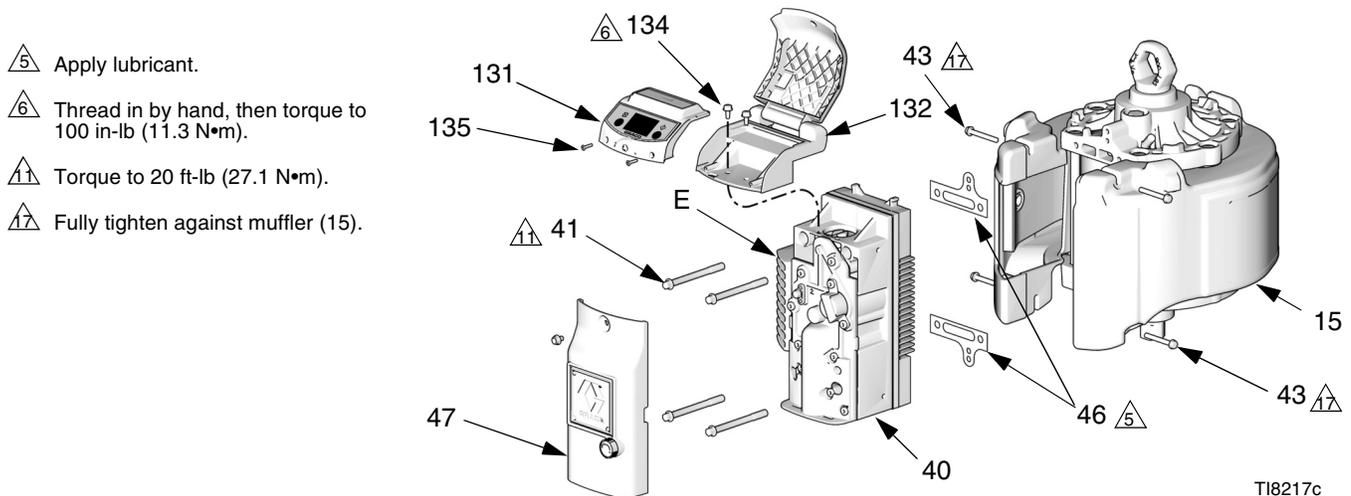

FIG. 9. Remove the Air Valve (Model Shown with DataTrak Module)
4. See FIG. 9. Remove the outer valve cover (47).
- a. **DataTrak Models:** Remove the two screws (135). Carefully remove the DataTrak module (131), see page 14. Disconnect the runaway solenoid and sensor cables from the module board. Remove the two screws (134) and carefully slide the housing (132) off the air valve.
7. See FIG. 9, page 20. Lubricate the gaskets (46) and ensure they align with the holes at the back of the air valve (40). Install the air valve. Install the screws (41) and torque to 20 ft-lb (27.1 N•m). Thread the screws (43) in by hand, then fully tighten them against the muffler (15).